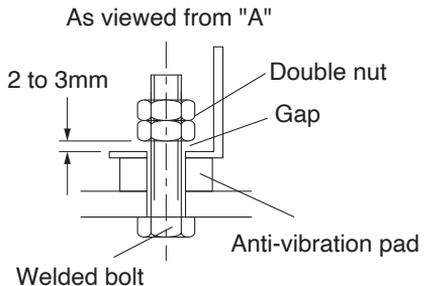

Fig.1
- c Leave a gap at the securing bolts to allow the anti-vibration pads to function properly (See Fig.1).